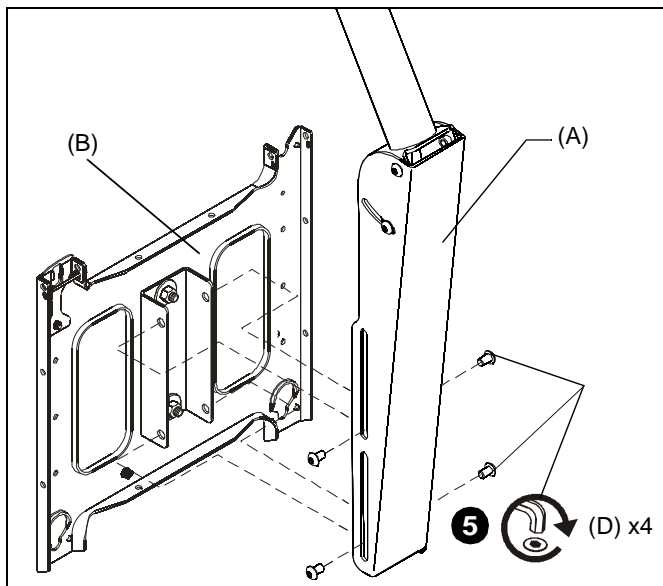

Figure 2
4. Thread the column assembly (A) into fixture (coupler or ceiling plate - not included), with a minimum of four threads engaged.
5. Secure faceplate (B) to faceplate mounting bracket using 3/16" hex wrench (C) and four 5/16-18 x 1/2" button head cap screws (D). (See Figure 2)